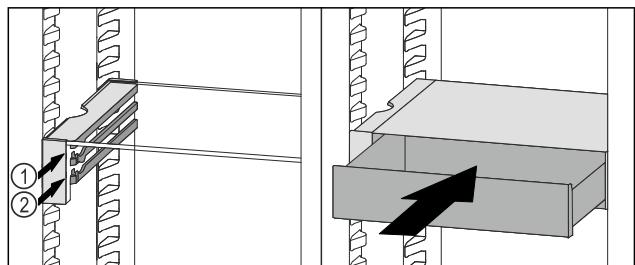

Fig. 124
- ▶ Place the VarioSafe drawer behind the stoppers on desired rib Fig. 124 (1) or Fig. 124 (2).